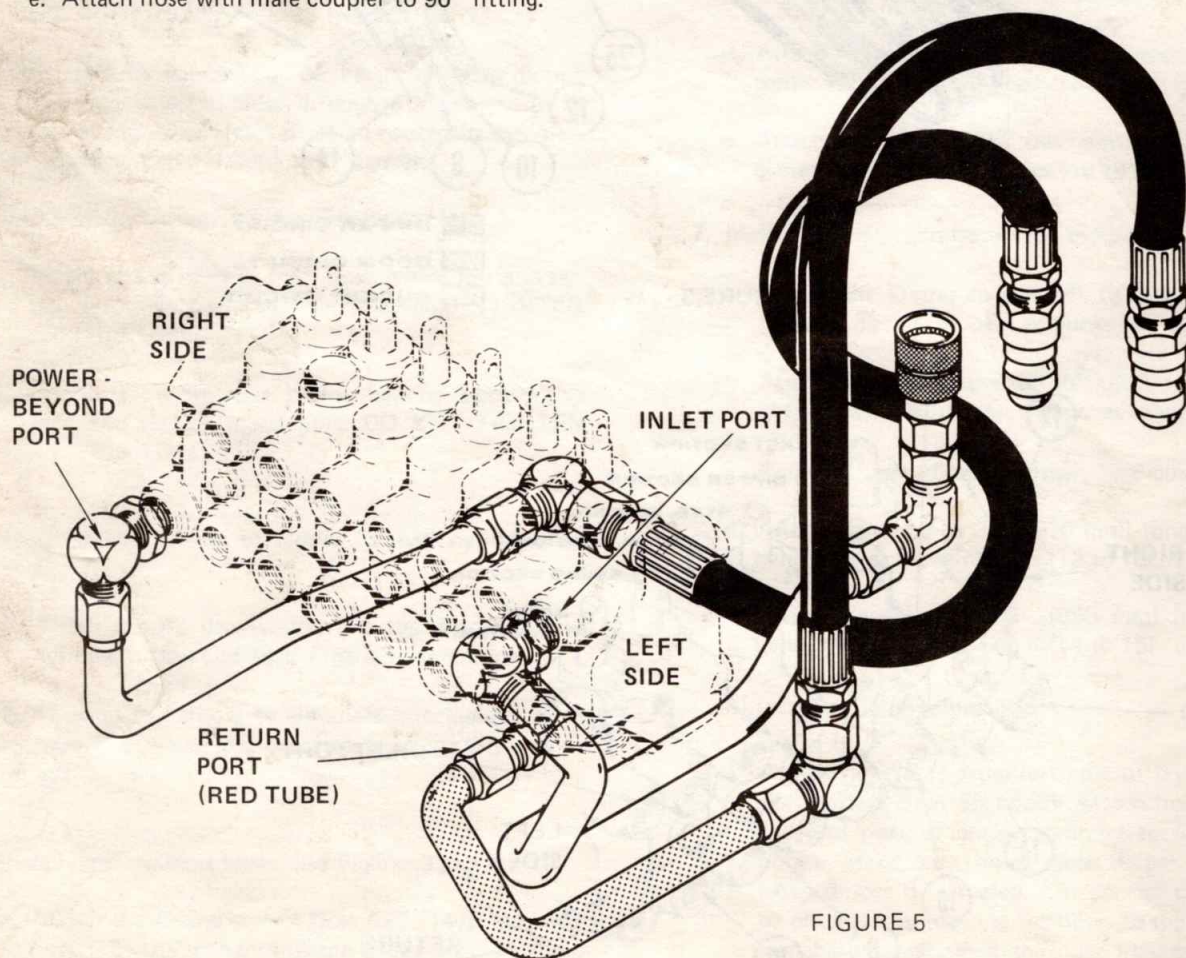

FIGURE 5
8. Install valve inlet tube. See Figure 5.
9. Install valve return tube. See Figure 5.
10. Install valve power beyond tube. See Figure 5.